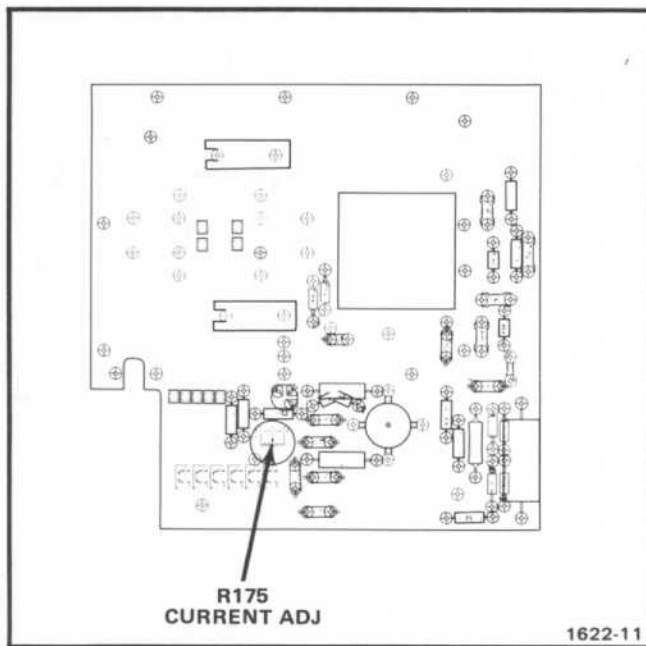
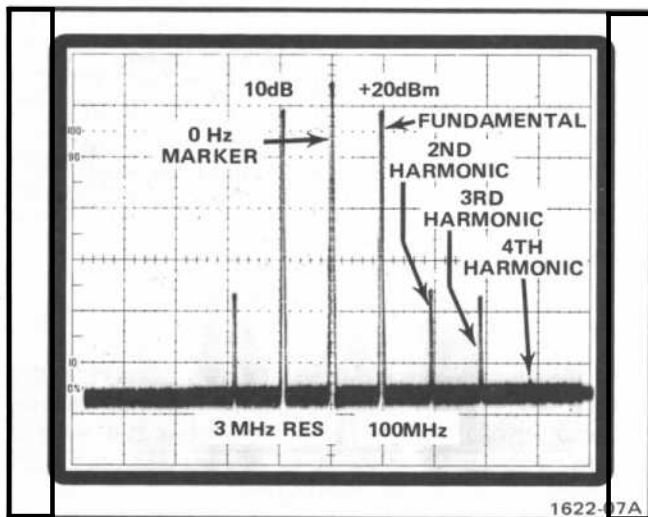

Fig. 3-4. Location of R175 Current Set adjustment.
Fig. 3-5. Display of 100 MHz signal and harmonics.
- Position the 0 Hz marker display to the center graticule line with the spectrum analyzer position control. See Fig. 3-5 for reference.
- Position the fundamental to the top graticule line with the spectrum analyzer vertical position control. See Fig. 3-5 for reference.
- Slowly adjust the SG 503 OUTPUT AMPLITUDE control over the 0.5 volt to 5.5 volt range in both directions and check for at least 3.5 division vertical separation between the top of the fundamental and the top of the second harmonic display (35 decibels down). See Fig. 3-5 for harmonic reference.
- Adjust—Current Adj, R175, for at least 3.5 division vertical separation between the top of the fundamental and the top of the second harmonic display. Repeat part e of this step. See Fig. 3-4 for adjustment location, and Fig. 3-5 for reference.
c. Position the fundamental to the top graticule line with the spectrum analyzer vertical position control. See Fig. 3-5 for reference.